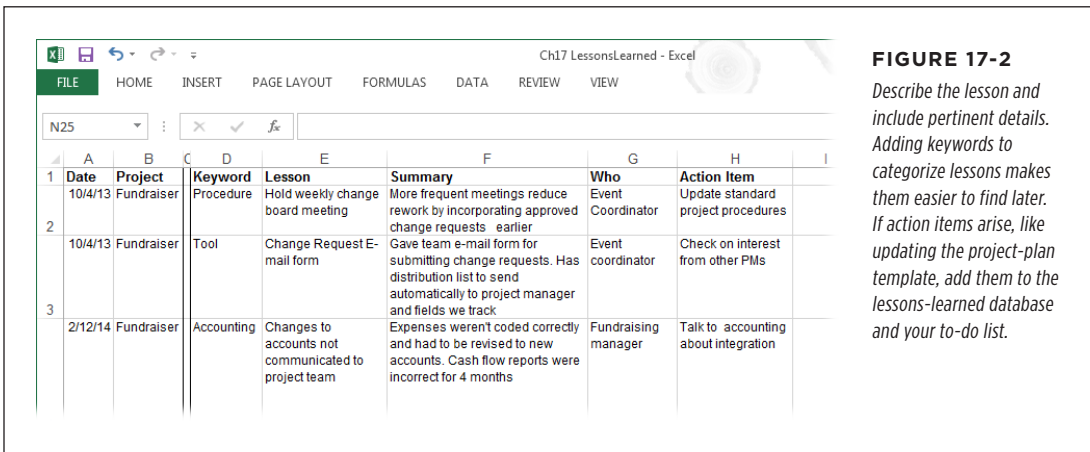

FIGURE 17-2
- **Scribe.** Taking notes is a full-time job. Assign someone who’s familiar with the project, preferably someone with legible handwriting or speedy keyboarding fingers. To be sure the information you want gets captured, give the scribe a template to fill in, like the one shown in Figure 17-2.
The most effective way to embed lessons learned into the corporate psyche is to add them to existing standard processes and procedures. For example, if a weekly change board meeting improved the turnaround time on change requests, you can update the project-plan template or your project-management guidelines to recommend that schedule. Publishing a project-management newsletter or a company blog are other ways to disseminate significant lessons. And a database of lessons learned can come in handy—as long as it's easy to search (see Figure 17-2).